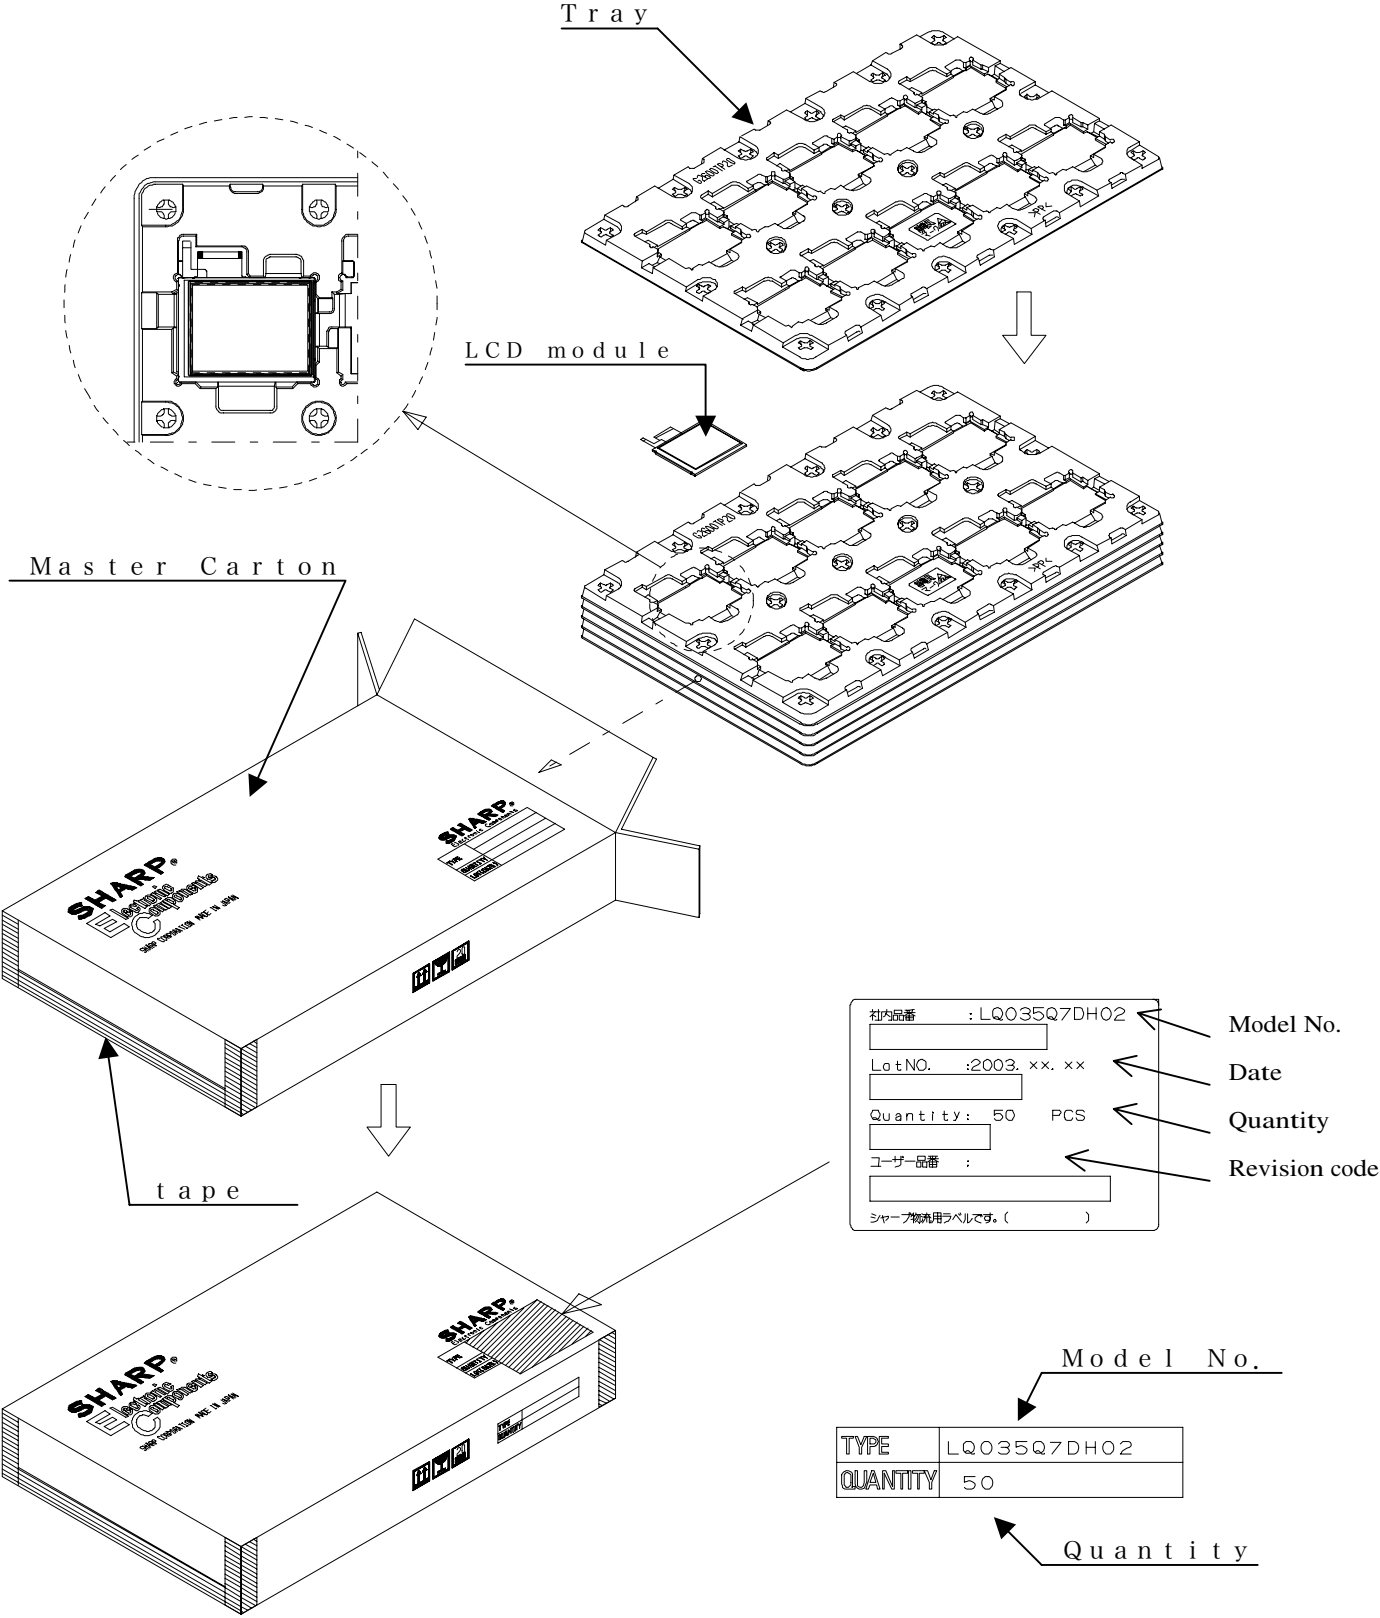

Fig.3 Forwarding Form
16) Forwarding form (see Fig. 3 Package Form)